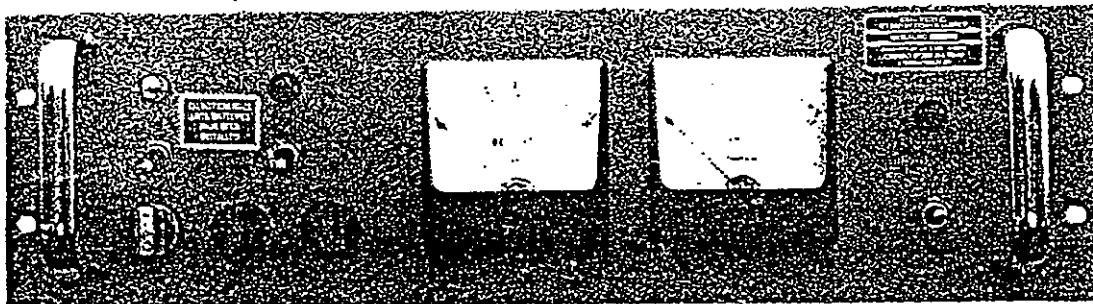

Figure 1.9. 1A12-Standby DC Power Supply (PP-7839/G)
1.3.9 PP-7839/G Standby DC Power Supply (1A12). Used in AN/FPN-60(V)1/60A(V)1 single-rate configurations only. The Standby DC Power Supply (Figure 1.9) provides DC power with battery backup to the GCF-W-1177-I/F DC Interface Box located in the GCF-RWL-1817B Frequency Standard Set. In the event of AC power failure, DC backup power is distributed through the DC Interface Box to the Tertiary Cesium (part of GCF-RWL-1817B), Multicoupler (CU-2297/FSN-2(V), if used), and all Bravo/Charlie/Delta receivers (R-2240/FSN-2(V)).
1.4 Reference Data. Table 1.1 lists the electrical power requirements of several units of the Transmitter Control Set. Tables 1.2 and 1.3 list the equipment supplied and the equipment required but not supplied, respectively. Figure 1.9 shows the relationships of all the units of the Transmitter Control Set.